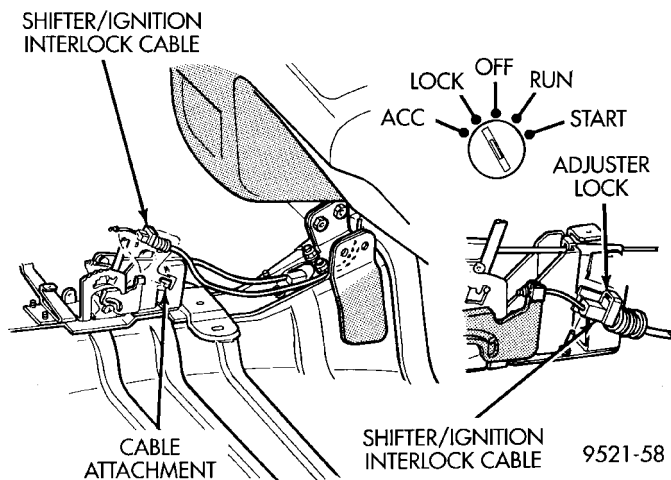

Fig. 15 Shifter Ignition Interlock Cable
(6) Pry the two tabs on the cable conduit end away from the gearshift mechanism and pull up on the cable. Remove the gearshift cable from the gearshift mechanism.
(7) Pry up the adjuster lock on the shifter/ignition interlock cable. Unsnap the shifter/ignition interlock cable end fitting from the groove in the gearshift mechanism. Remove the cable core end from the plastic cam of the shifter mechanism (Fig. 15).